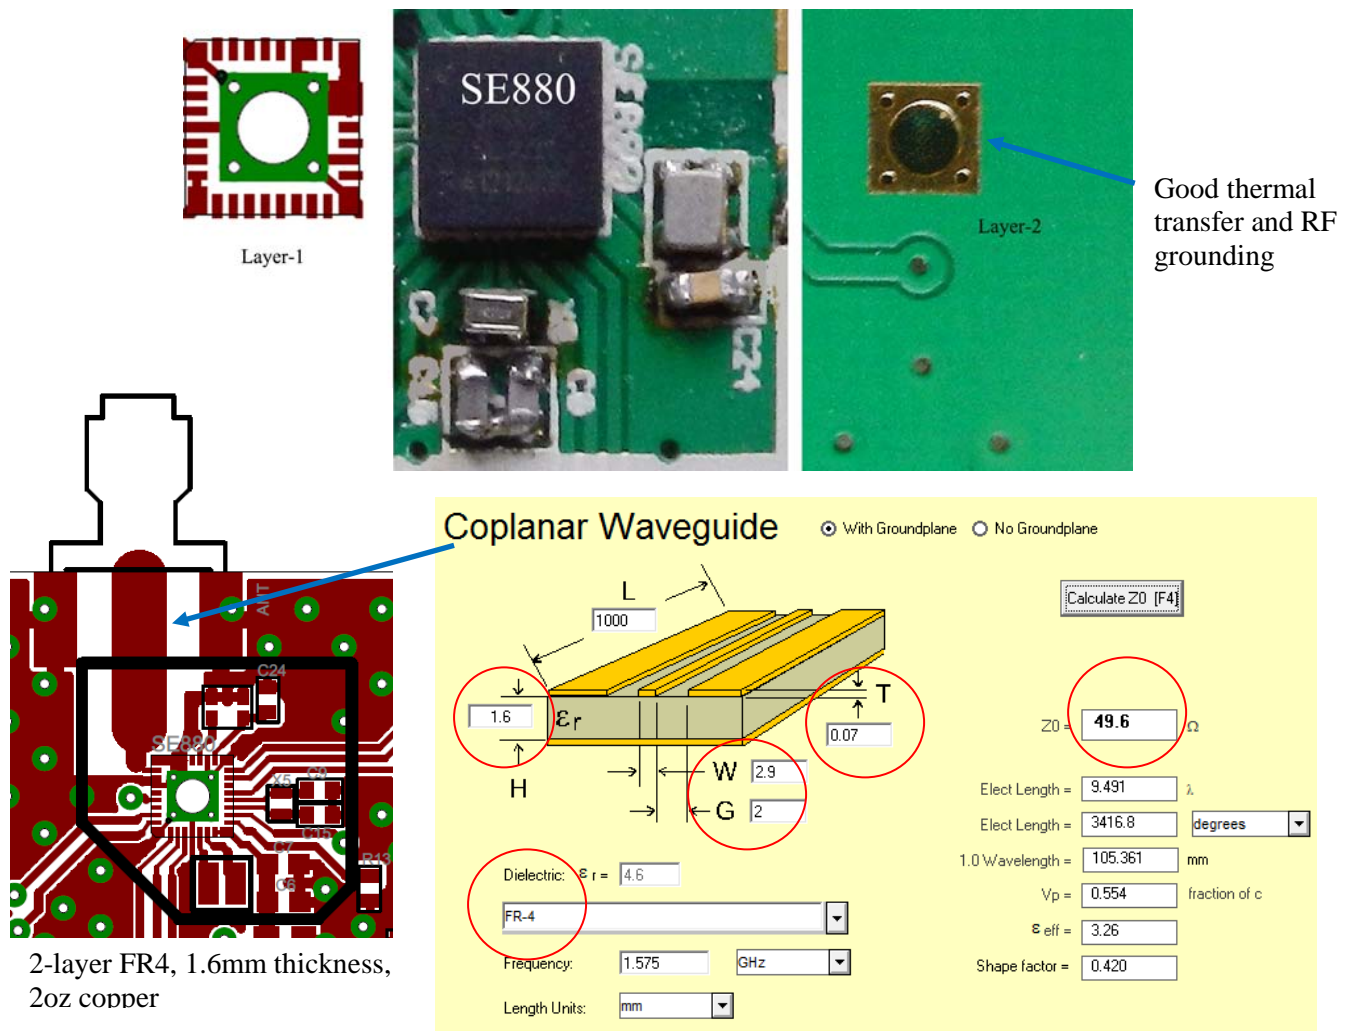

Figure 3: SE880 PCB Layout
2. The ground plane with via holes under the SE880 (shown in Figure 3) serves two purposes: